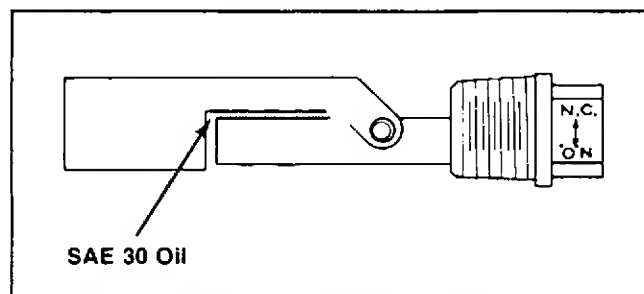

Figure 8-15. Float Switch Removal.
- Apply a thick film of clean SAE 30 oil to the float and switch body as shown in Figure 8-15.